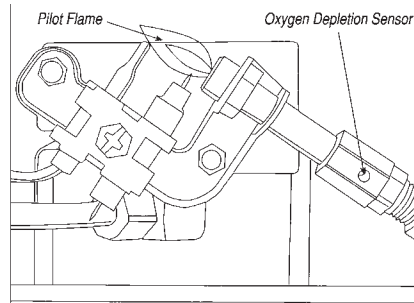

Figure 6
Visually inspect the pilot flame and burner periodically during use. The pilot flame should be blue in color (not yellow) and will extend beyond the thermocouple. The flame will surround the thermocouple just below the tip, see Figure 6.
- 3 Remove (4) four screws that secure the rear cover to the Heater.
- 5 Remove (4) four burner retaining screws and fuel line from burner assembly. Remove burner assembly from back of housing.
- 7 Inspect and clean main burner orifice (threaded into orifice holder). Orifice holder is attached to the burner assembly venturi with (2) two screws.
- 8 Inspect and clean pilot (mounted to bracket) by using a vacuum or apply air pressure through the holes in the pilot indicated by the arrows in Figure 6.